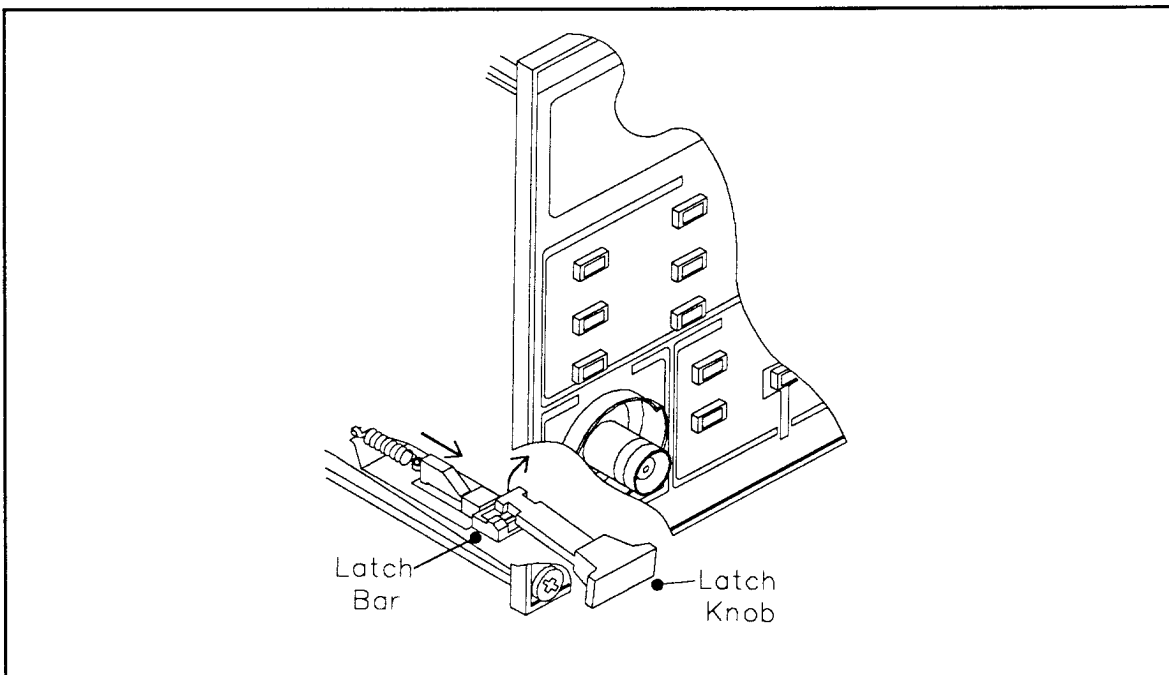

Figure 5-8. Removal of Latch Knob.
1. To remove the latch knob, push the latch bar forward slightly with your finger and lift the latch knob out of the bar as shown in Figure 5-8. Pull the latch knob out through the front panel.